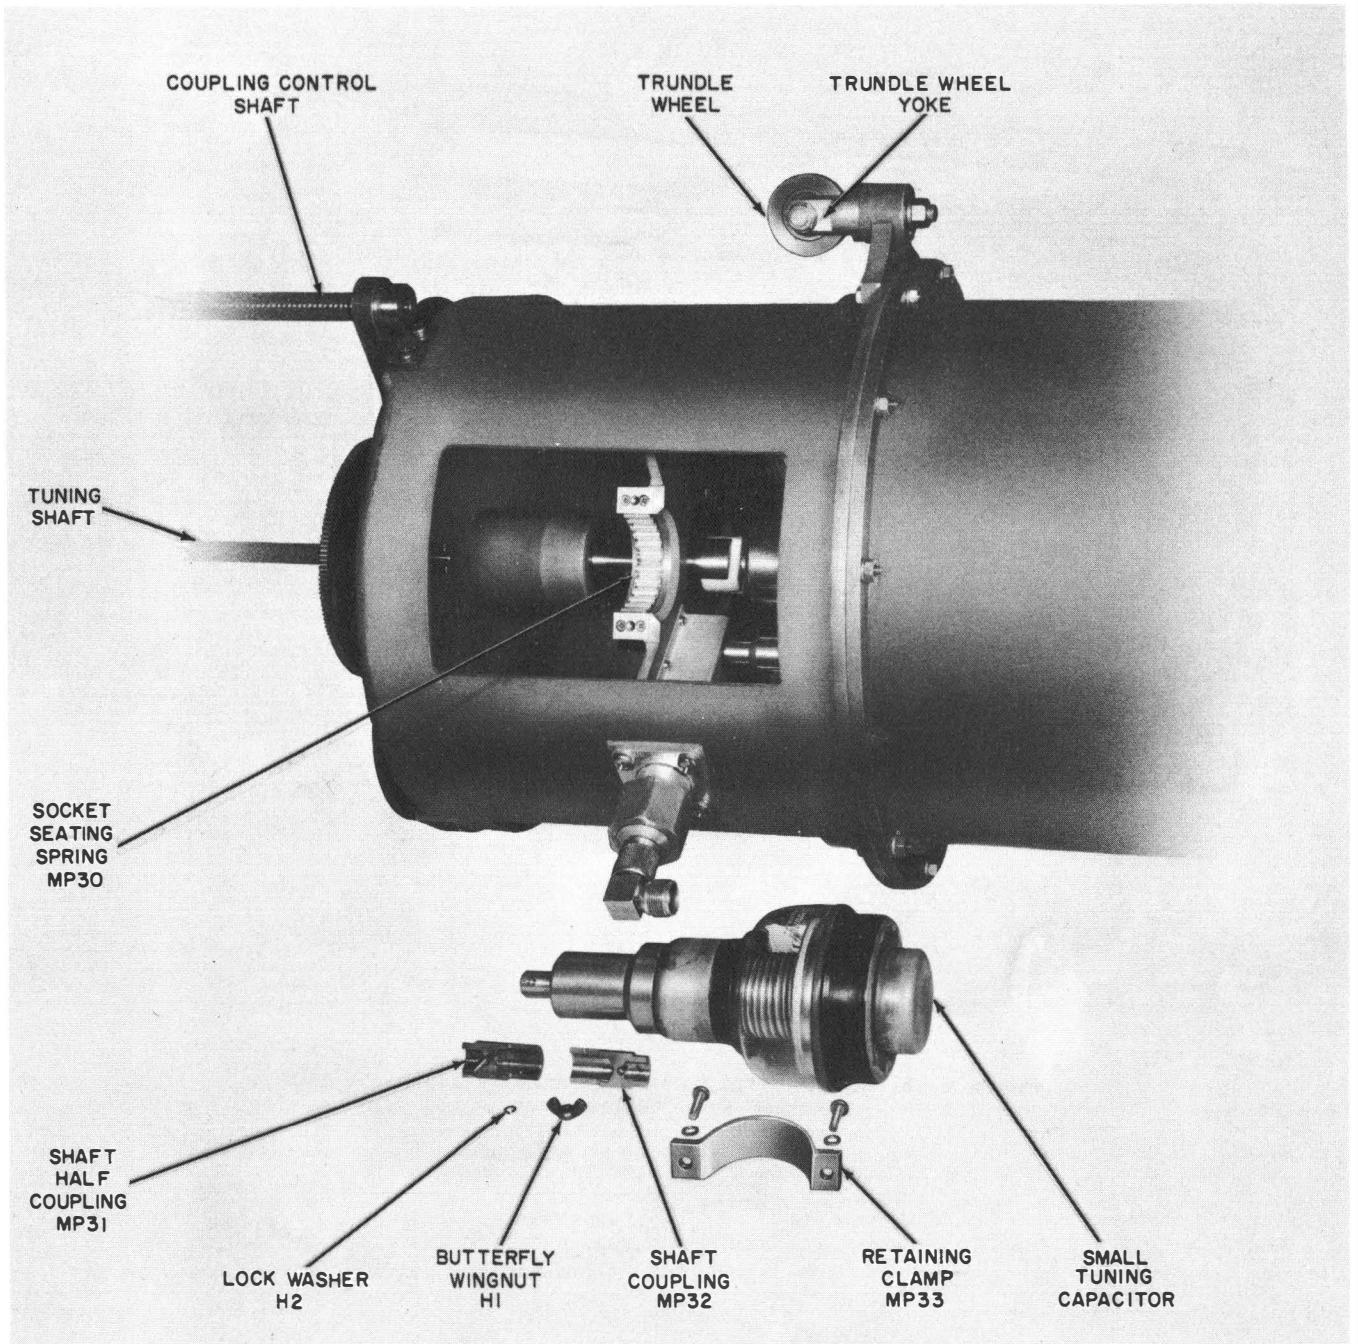
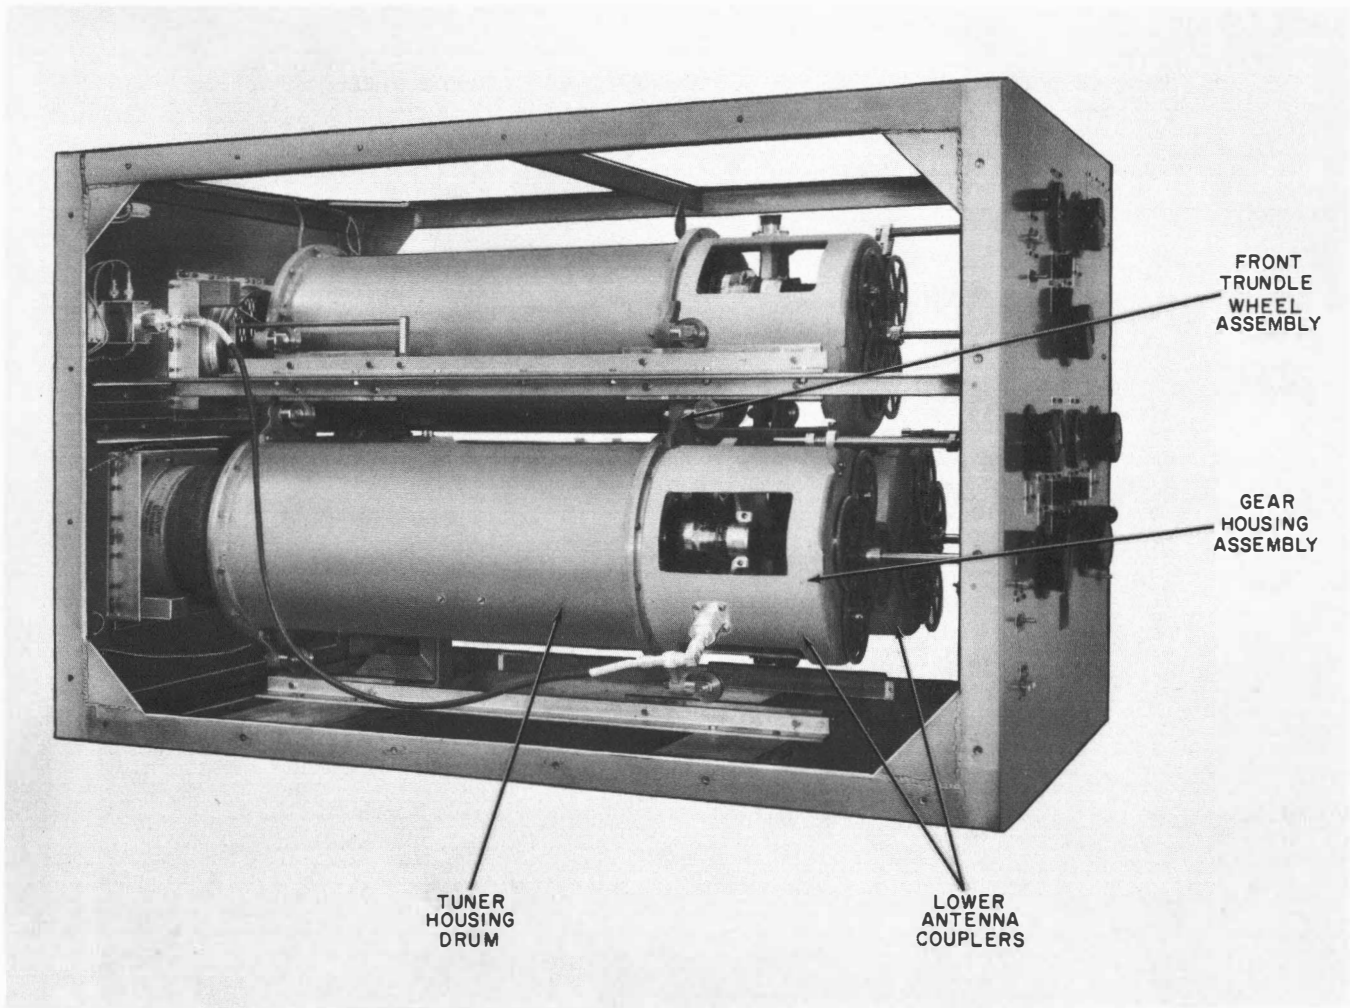

Figure 6-11. Antenna Coupler, Small Capacitor Removed
Figure 6-12. Electrical Equipment Cabinet CY-3409/FRA-49(V),
(4) Lift the antenna coupler out of the electrical equipment cabinet.
e. SMALL TUNING CAPACITORS. - The small tuning capacitors (see figure 6-11) are removed as follows:
- (1) Gain access to the capacitor through the cutouts in the front of the antenna coupler.
- (2) Remove the butterfly nut and the two halves of the shaft-coupler.
- (3) Remove the retaining clamp.
- (4) Disengage the capacitor from its socket and lift out.
f. LARGE TUNING CAPACITOR. - The large tuning capacitor can only be removed when the antenna coupler is removed from the electrical equipment cabinet. The procedure (see figures 6-12 and 6-13) is as follows:
- (1) Remove the associated antenna coupler and stand it with gears uppermost.
- (2) Note the position of the front trundle-wheel assemblies and remove the 12 mounting screws, lock-washers, nuts, and two trundle-wheel assemblies from the circumference of the upper flange.
- (3) Lift the gear housing assembly up and off